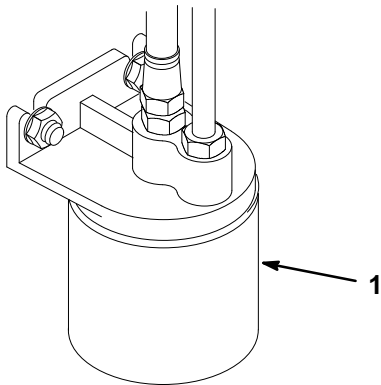

Figure 36
- A. Place drain pan under filter, remove the old filter and wipe the filter adapter gasket surface clean (Fig. 36).